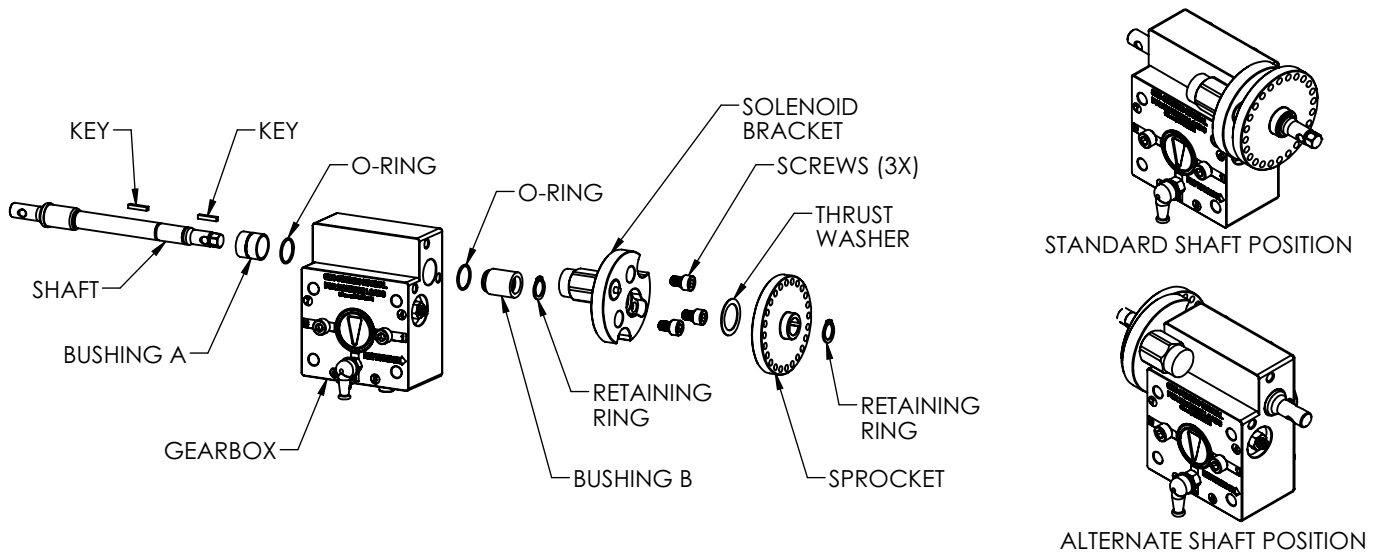

Figure 8.2B
- B. Referring to Figure 8.2B, remove retaining ring, sprocket, thrust washer and key. Avoid overstretching the retaining ring.
- A. Referring to Figure 8.2B, remove retaining ring, sprocket, thrust washer and key. Avoid overstretching the retaining ring.